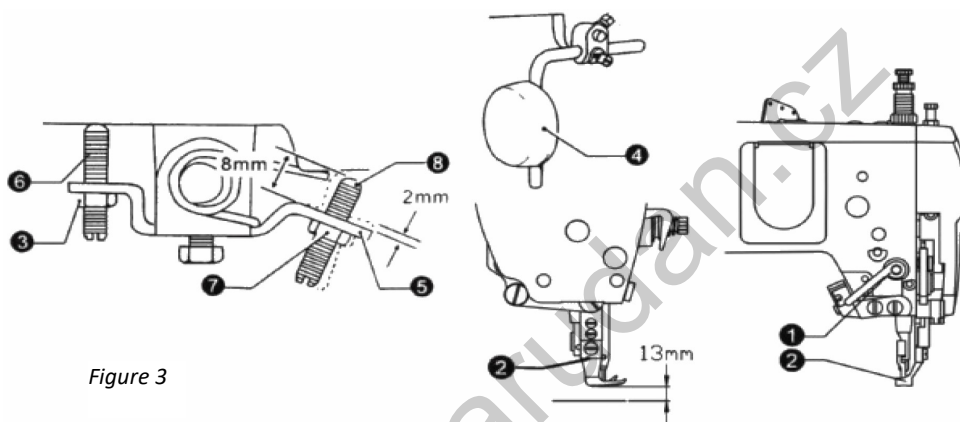

Figure 3
- Turn the presser foot lift spanner (1), to let the presser foot (1) down totally. See Fig.3.
- Release the screw (3).
- Tighten the screw (6), and adjust the knee control limited frame, make it turn 2mm.
- Tighten the screw (3), Release the screw (7).
- Turn the screw (8), and make the distance between the end of the screw and the limited frame is 8 mm.
- By turning the screw (8), and operating the knee control block, it can adjust the distance between bottom of the presser foot and needle plate within 13 mm.
- Finish the adjustment, then tighten the screw (7).